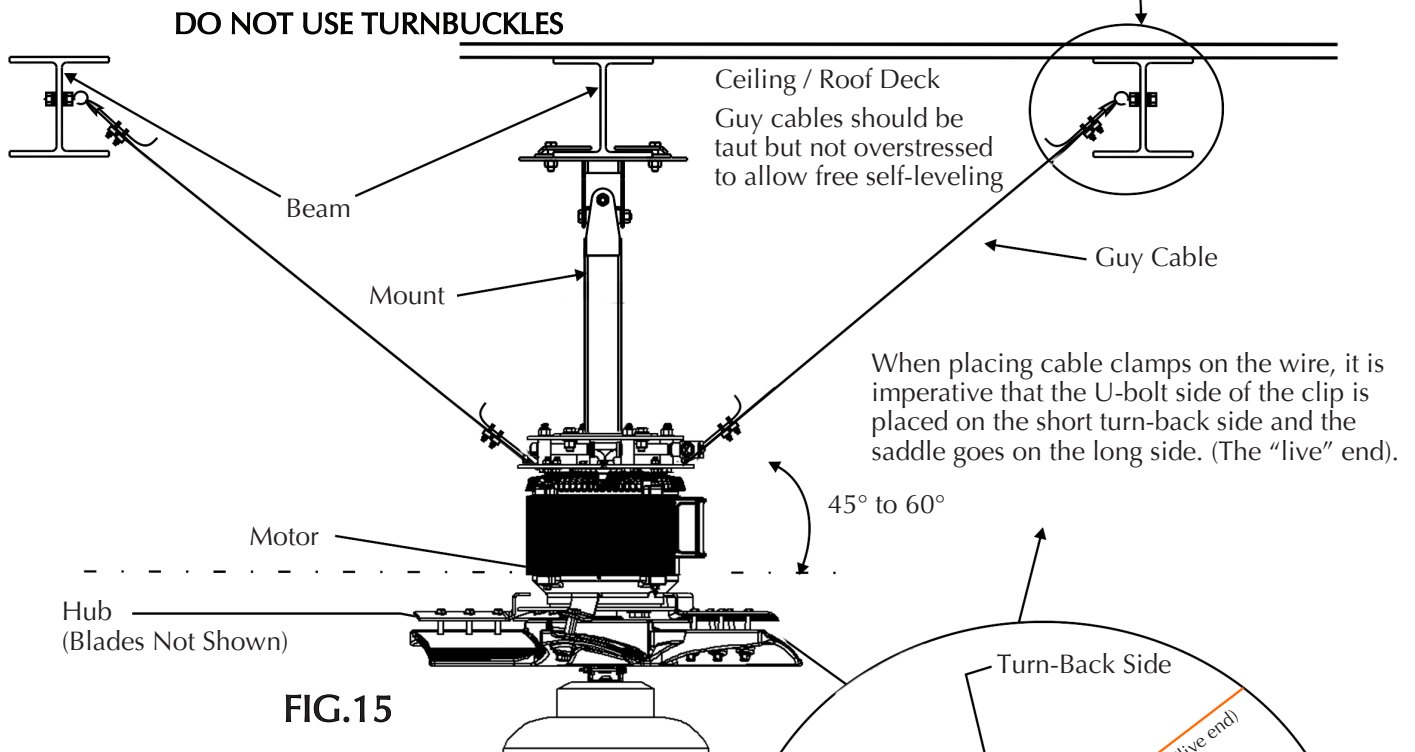
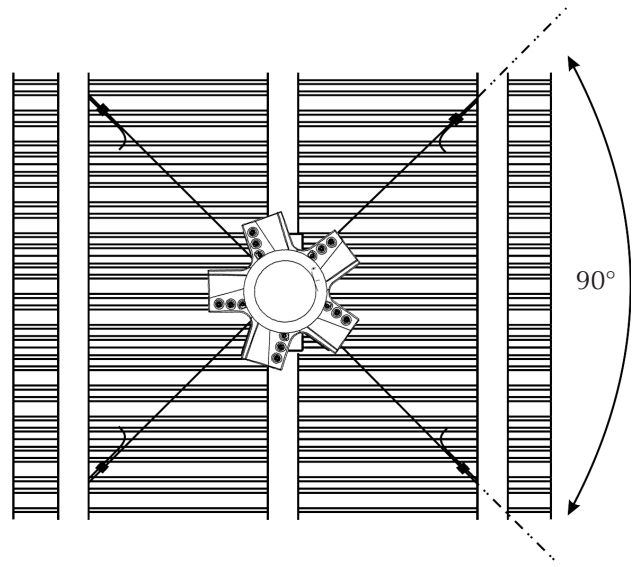

FIG.15
FIG.17
STRUCTURAL NOTE: Guy cables must be installed or fastened to a structural component of the building at the angle shown in Fig.15 and Fig.17.
2. Install eye bolt with nuts and washers in I-Beam as per Fig.15.
5. Guy wires should be taut but not over-stressed to allow free self-levelling. They should also be approx. 90o apart (Fig.17).